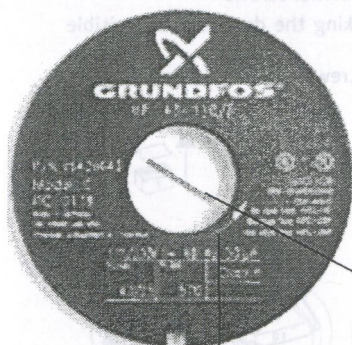

Fig. 11
**WARNING:** When loosening the vent screw, beware of escaping liquid—it can be scalding hot—take caution to avoid personal injury or damage to pump components (see Fig. 11).
- Start the pump briefly, and stop, observing in which direction the shaft rotates—it must rotate in the COUNTER-CLOCKWISE direction as shown on the name plate (see Fig. 11).